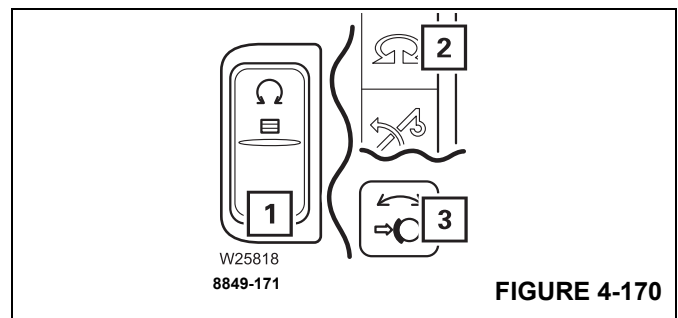

FIGURE 4-170
- Press the button (1), (Figure 4-170) once.
- The lamp in the button (1) will light up dimly.
- Symbol (2) will turn red if the swing gear is switched off.
- The swing gear brake is applied – lamp (3) lights up.